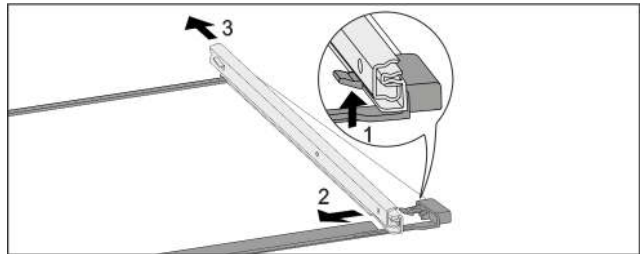

Fig. 205 Glass shelf with rails
- ▶ Push up front click-in hooks. Fig. 205 (1)
- ▶ Move the pull-out rails to the side Fig. 205 (2) and to the rear Fig. 205 (3).